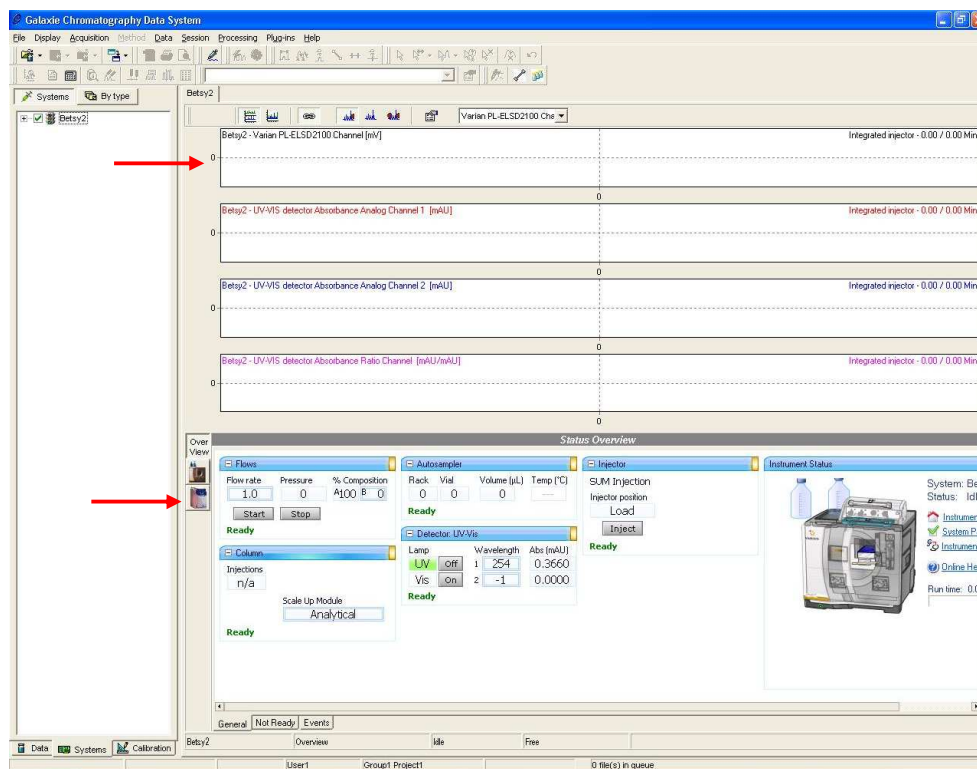

Figure 12: Galaxie System Screen Capture
16. Open up Galaxie and click on the system that contains the newly added ELSD. You should see the following screen or something similar (Fig 12). Note the Varian PL-ELSD2100 channel at the top of the page and the ELSD picture down the left hand side of Status Overview.